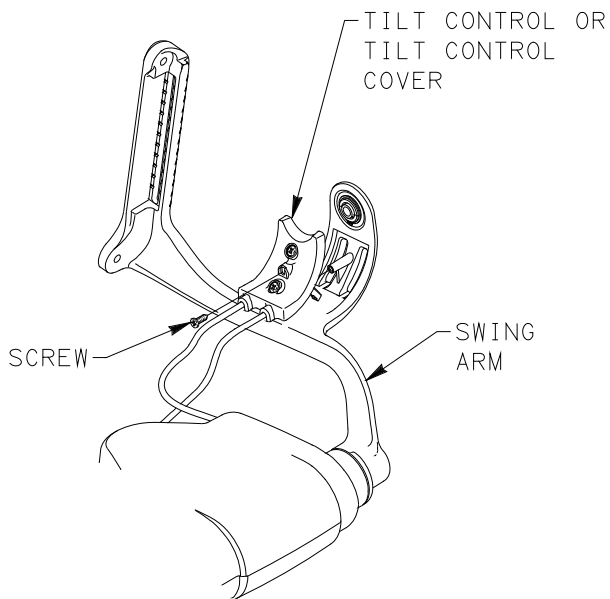

FIGURE 10
6. USING #2 PHILLIPS HEAD SCREWDRIVER, REMOVE AND SET ASIDE SCREW FASTENING TILT CONTROL OR TILT CONTROL COVER (BASIC TILT OPTION) TO SWING ARM. REMOVE TILT CONTROL AND LET HANG. IF CHAIR WAS EQUIPPED WITH BASIC TILT OPTION, SET TILT CONTROL COVER ASIDE. SEE FIGURE 10.
14. INSTALL TILT CONTROL ONTO SWING ARM AND SECURE WITH SCREW. IF CHAIR IS EQUIPPED WITH BASIC TILT, INSTALL TILT CONTROL COVER AND PROCEED TO STEP 16. SEE FIGURE 10.